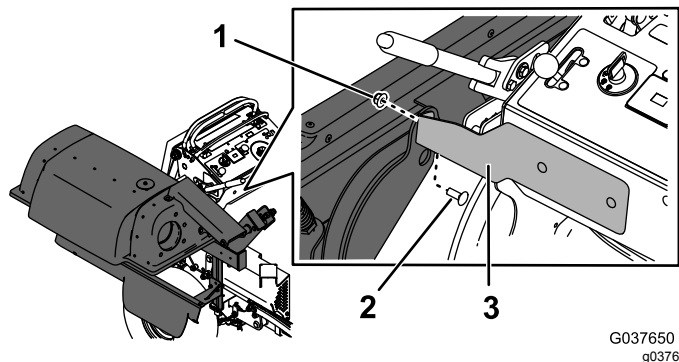

Figure 16
4. Secure the bagger frame to the front mount bracket using a carriage bolt (3/8 x 1 inch) and nut (3/8 inch) as shown in Figure 16.